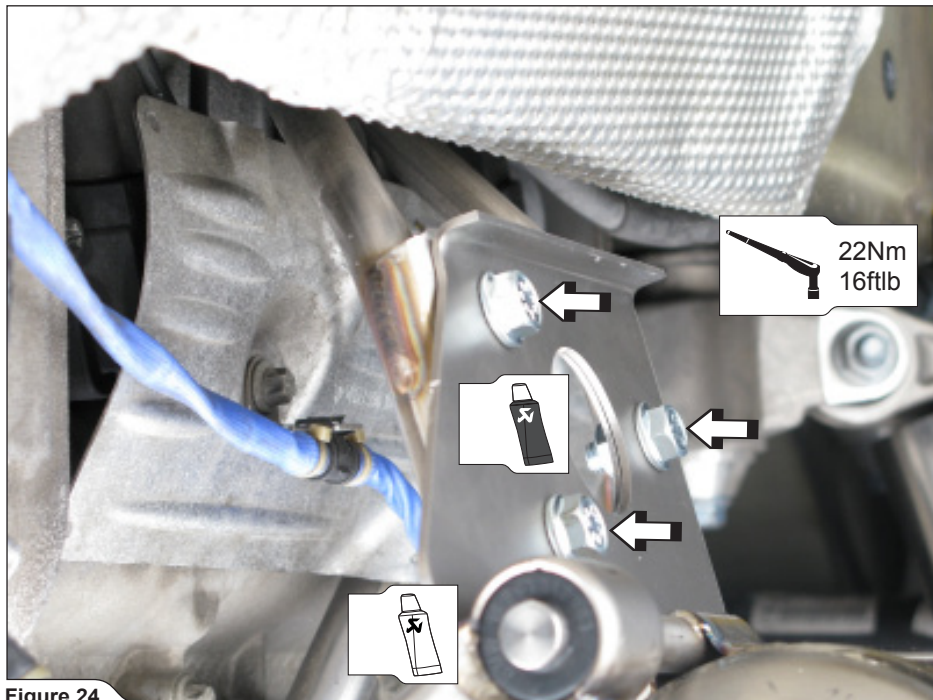

Figure 24
6. **For Evolution-Race:** attach and tighten the headers' brackets on both sides of the vehicle. Use Akrapovič M8x16 bolts and M8 nuts (**Figure 24**).